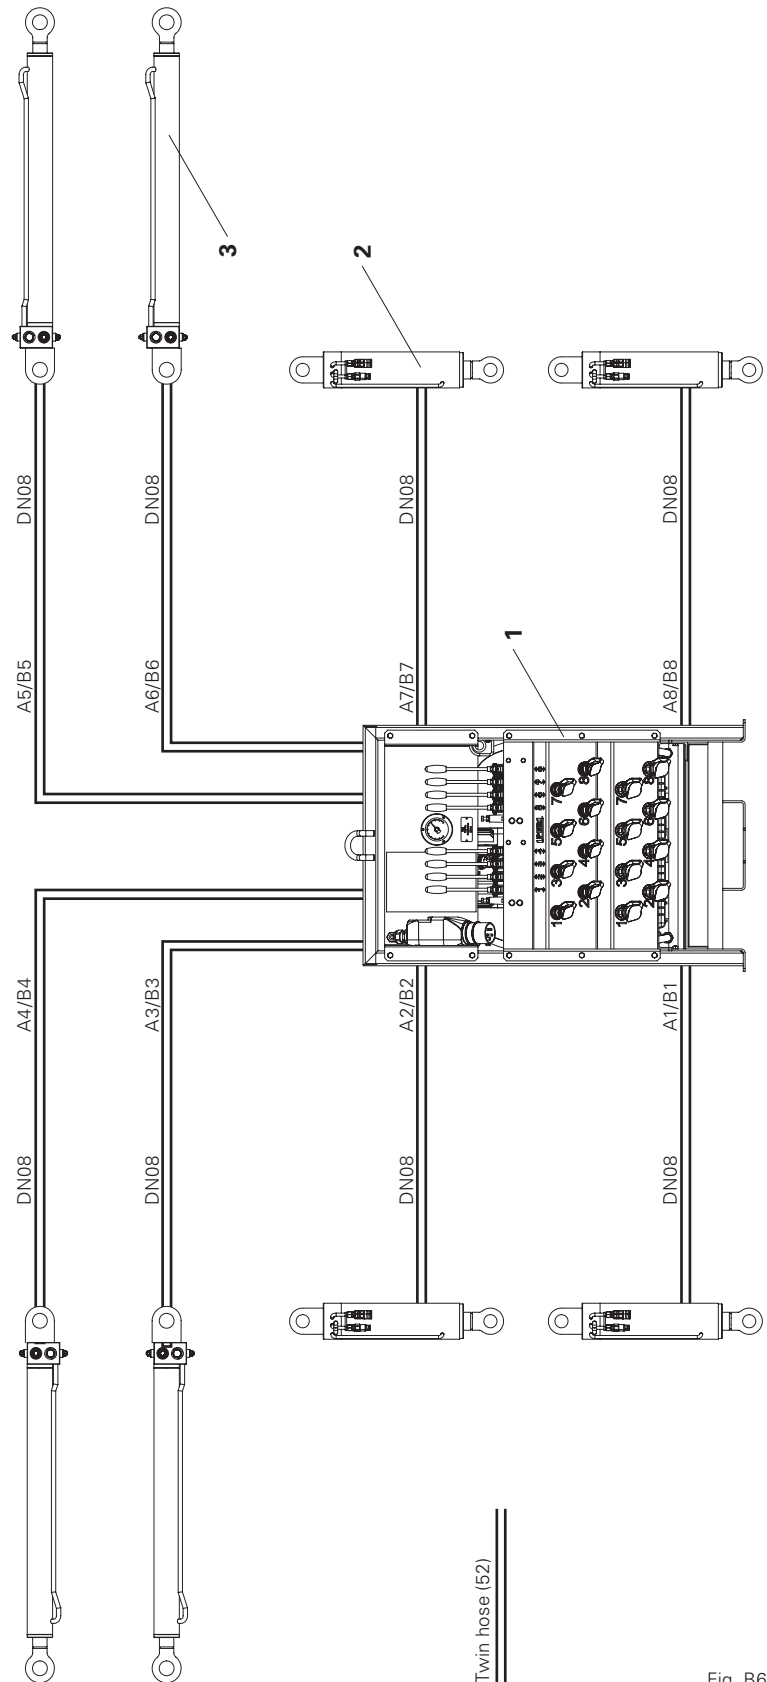

Fig. B6.05
- 2. Connect the hydraulic cylinders (2 + 3) to the hydraulic unit (1) as shown in Fig. B6.05.